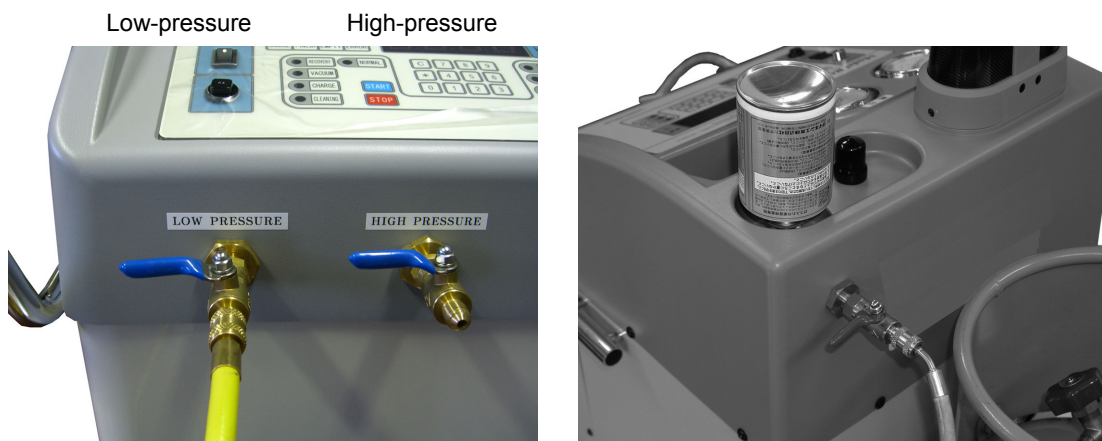

Fig.6-6
- 1) Attach each ball valve to the hose inlet of a service can, the low-pressure side recovery inlet and the high-pressure side recovery inlet. Close all ball valves. (See Fig. 6-6.)
- 2) Connect the CFC-12 low-pressure hose to the ball valve attached on the hose inlet of the service can and that on the low-pressure side recovery inlet. (See Fig. 6-6.)